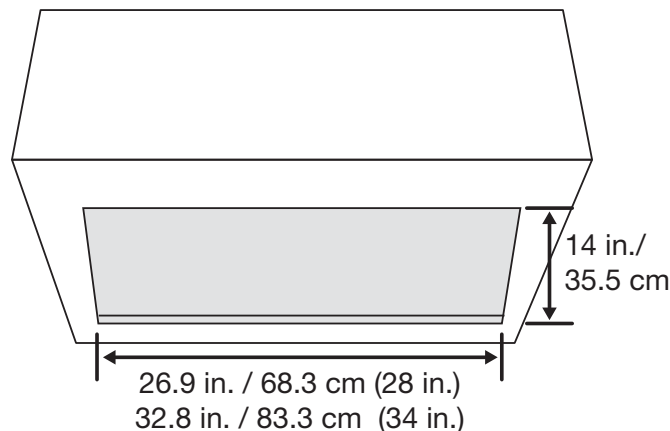

Figure 1
- Cut a hole in the bottom of the cabinet, using the dimensions shown on Figure 1.